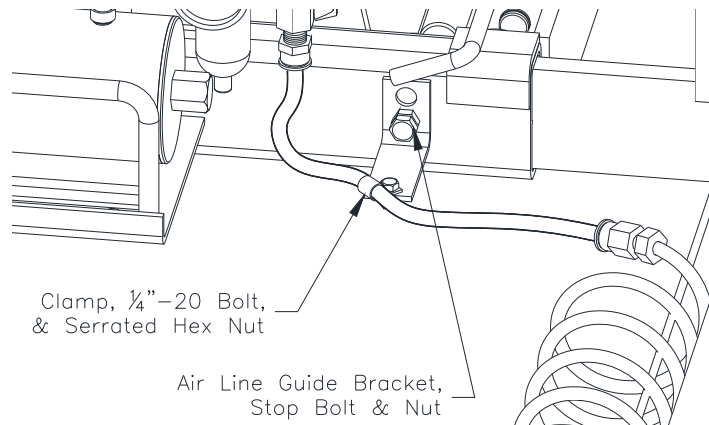

Figure 12
16. Remove Side Member Stop Bolt and Hex Nut. Install Air Line Guide Bracket and replace hardware as shown in **Fig 12**. Using Clamp, 1/4"-20 Hex bolt, and Hex nut, secure tubing to guide bracket. Rotate Clamp as necessary. **Note:**